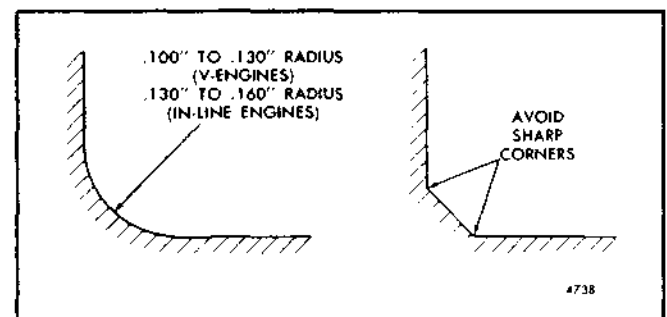

Fig. 9 - Crankshaft Journal Fillets
3. All journal fillets on the In-line crankshafts must have a .130" to .160" radius and on the 6V and 8V crankshafts, a .100" to .130" radius between the crank cheek and the journal, and must not have any sharp grind marks (Fig. 9). The fillet must blend smoothly into the journal and the crank cheek, and must be free of scratches. The radius may be checked with a fillet gage.
6. If the thrust surfaces of the crankshaft are worn or grooved excessively, they must be reground and polished. Care must be taken to leave a .130" to .160" radius on the In-line crankshaft and .100" to .130" radius on the 6V and 8V engines between each thrust surface and the bearing journal (Fig. 9).